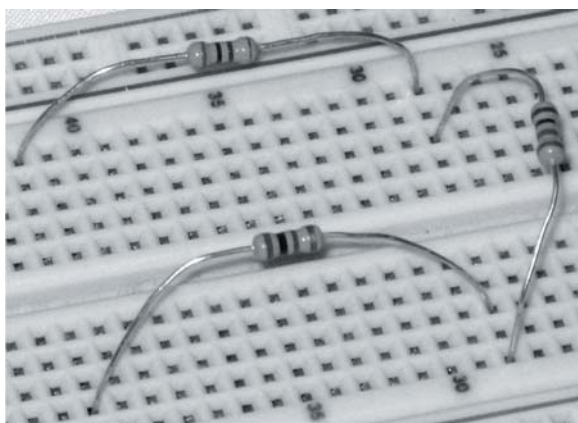

Fig. 8—Three resistors in series with schematic
- Now connect the 2-kΩ resistor in series with the first two. Figure 8 shows both the physical and the schematic arrangements. Predict what the total resistance of the series string will be. Then measure this. Does the formula check out?